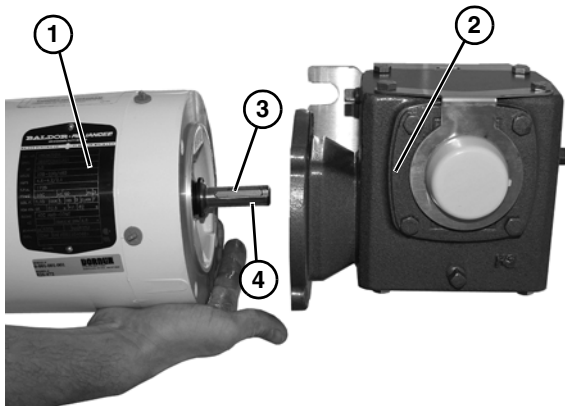

Figure 40
6. Slide motor (**Figure 40, item 1**) off of gear reducer (**Figure 40, item 2**), and remove shaft key (**Figure 40, item 3**) from motor shaft (**Figure 40, item 4**).
7. With key (**Figure 40, item 3**) in keyway on motor shaft (**Figure 40, item 4**), slide new motor (**Figure 40, item 1**) and gear reducer (**Figure 40, item 2**) together.